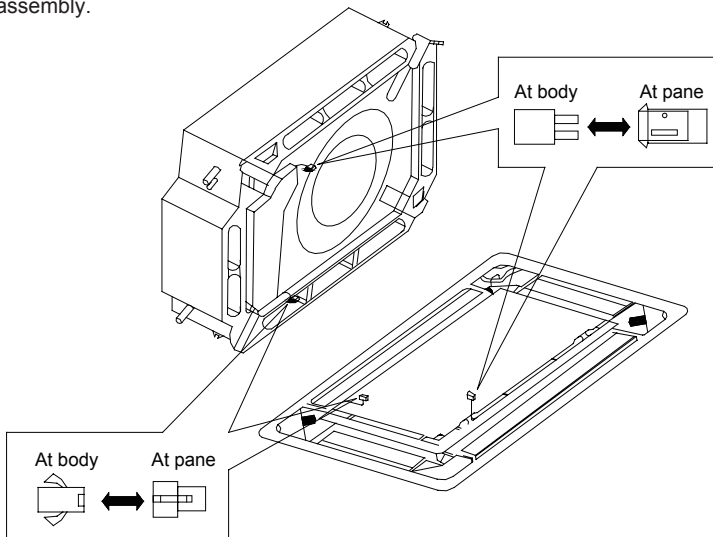

Fig.16
- ③ . Wiring of the cassette grille (Fig.16)